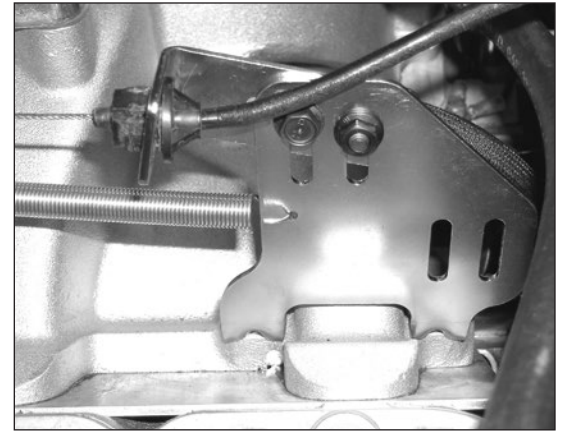

Figure 2 - Throttle Cable Bracket
4. (2908 & 29087 Only) Select the appropriate cable brackets for your application (large or small opening brackets) and attach them to the GEN III throttle bracket base with the appropriate number of 6mm x 1.0 x 12mm serrated flange hex bolts. (**Note:** In our retrofit of the LS1 into a 1974 Camaro, using a TH400R automatic transmission, we only needed one of the small opening cable brackets for the throttle cable, since a kickdown cable is not used. See **Figure 2** for example.)